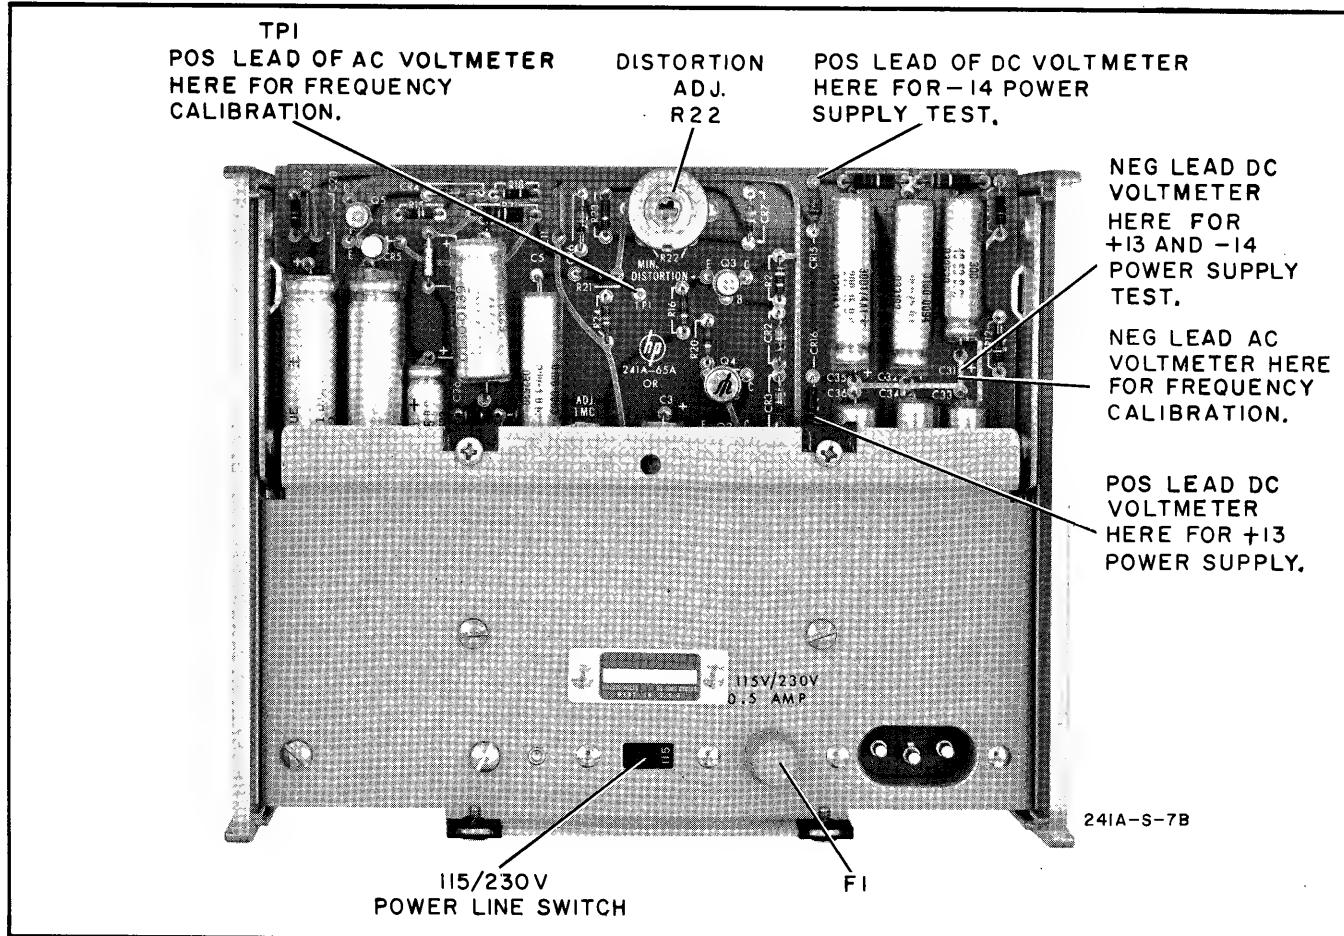

Figure 5-4. Rear View
- b. Measure +13 volt supply using a DC Voltmeter (^{hp} Model 412A); connect the common lead to the junction of C31, C32, and C33 and the volts probe to the cathode of CR16. (Refer to Figure 5-4.)
- f. Connect common lead of DC Voltmeter to the junction of C33 and C34, Volts probe to the anode of CR15 (see Figure 5-4).
- c. Connect common lead of an AC Voltmeter (^{hp} Model 400H) to the junction of C33 and C32, positive lead to Test Point TP1 (See Figure 5-4).
- g. Adjust R22 (see Figure 5-4) for a minimum reading on the Distortion Analyzer.